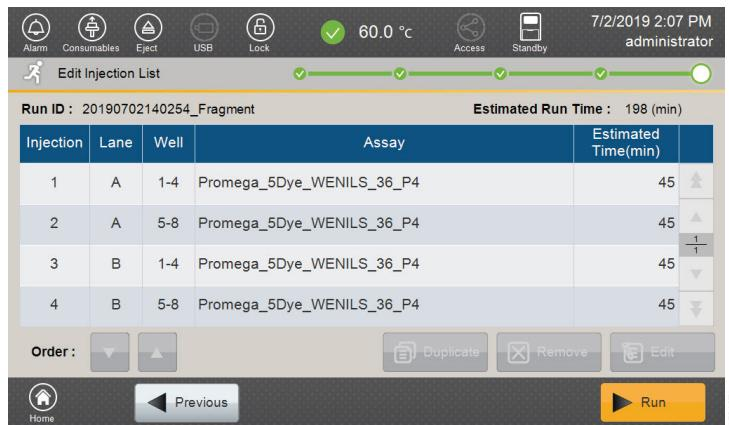

Figure 94. 'Edit Injection List' screen.
4. After the autosampler has returned to its home position, the 'Edit Injection List' screen will be displayed (Figure 94). To edit the injection list, see Section 5.6.
The 'Edit Injection List' screen (Figure 94) allows users to change the run assay assigned to the linked strips prior to starting the run. You can also remove, duplicate or reorder injections from this screen. By default the injection list displays all scheduled injections in order by lane and well position. You can use the arrows on the right side of the screen to locate a specific injection.
1. Select the appropriate injection in the list (Figure 94), and then select **Edit** to open the 'Select Assay' window.
1. Select the appropriate injection in the list (Figure 94), and then select **Remove**.
Select the appropriate injection in the list (Figure 94), and then select **Duplicate**. The duplicate injection is added to the bottom of the injection list.
1. Select the appropriate injection in the list, and then touch  or  at the bottom left of the 'Edit Injection List' screen (Figure 94) to change the order.
The 'Injection List' tab (Figure 98) displays the same information as the 'Edit Injection List' screen (Figure 94) of the setup process (see Section 5.5) with additional status information and the same footer buttons as on the 'Progress' tab. From the 'Injection List' tab it is possible to edit runs in the same manner as the setup process (see Section 5.6). The options to duplicate, reorder, remove or edit injection information depends on the status of an injection.